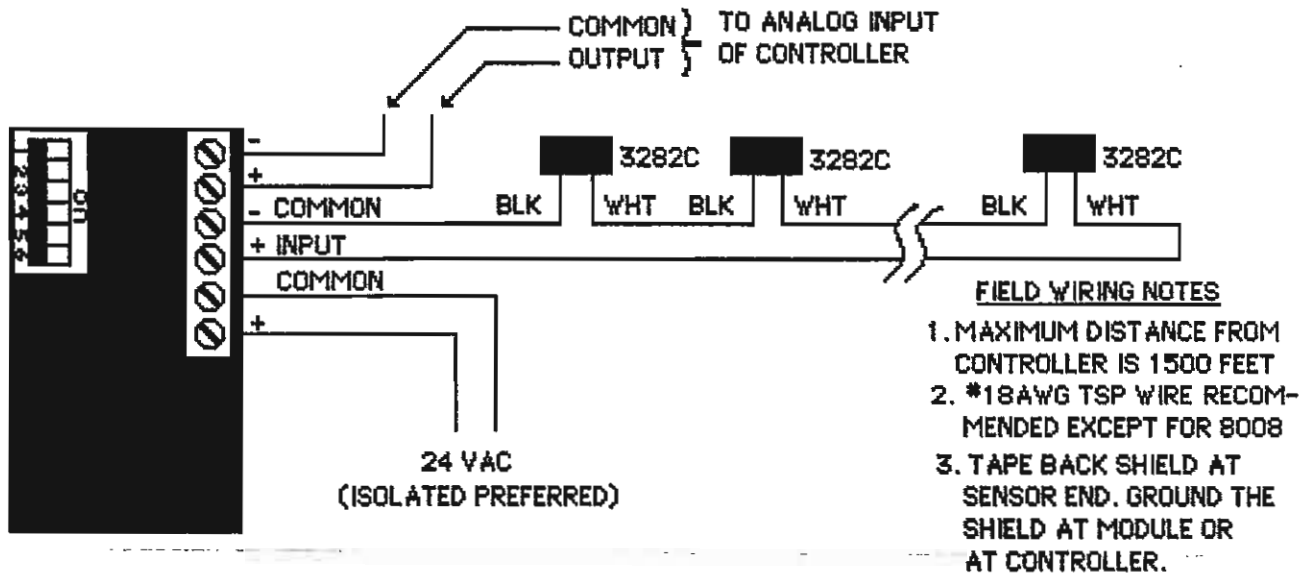

FIGURE 2. MODEL 3261 WIRING DIAGRAM
2. Connect a 24VAC voltage source to the designated 24VAC input and common terminals of the module as shown in Figure 2. Any volt/amp rating of transformer can be used as the 3261 module uses only 0.1 VA.
3. Connect the temperature sensors in series as shown in Figure 2. Make sure that the polarity of the sensors are not reversed or mixed. Connect the common (black) from the Common terminal of the 3261 to the first sensor in the series, and connect the input (white) from the last sensor in the series to the Input terminal (see Figure 2).